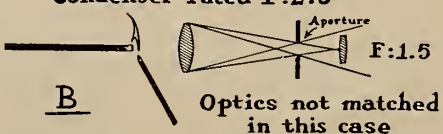

FIG. 3. A projection lens which is matched to one lamp is not necessarily matched to another lamp having the same “speed”.
Figure 3 shows two lamp optical systems, one having a 10-inch mirror placed 25 inches from the aperture (A) and the other a 4-inch condensing lens placed 10 inches from the aperture (B). (The condenser is shown as a single biconvex lens to simplify the drawing. Actual condensing lens assemblies consist of two plano-convex or aspheric lenses. This diagram does not represent any actual equipment.)